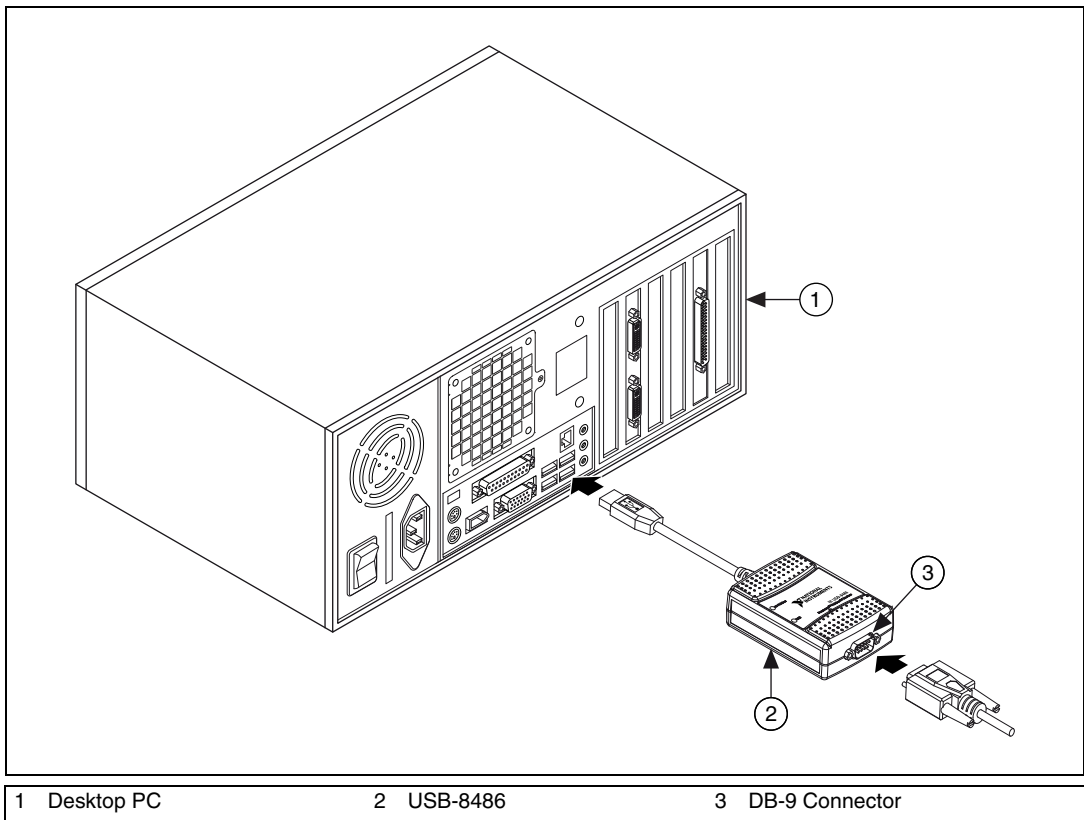
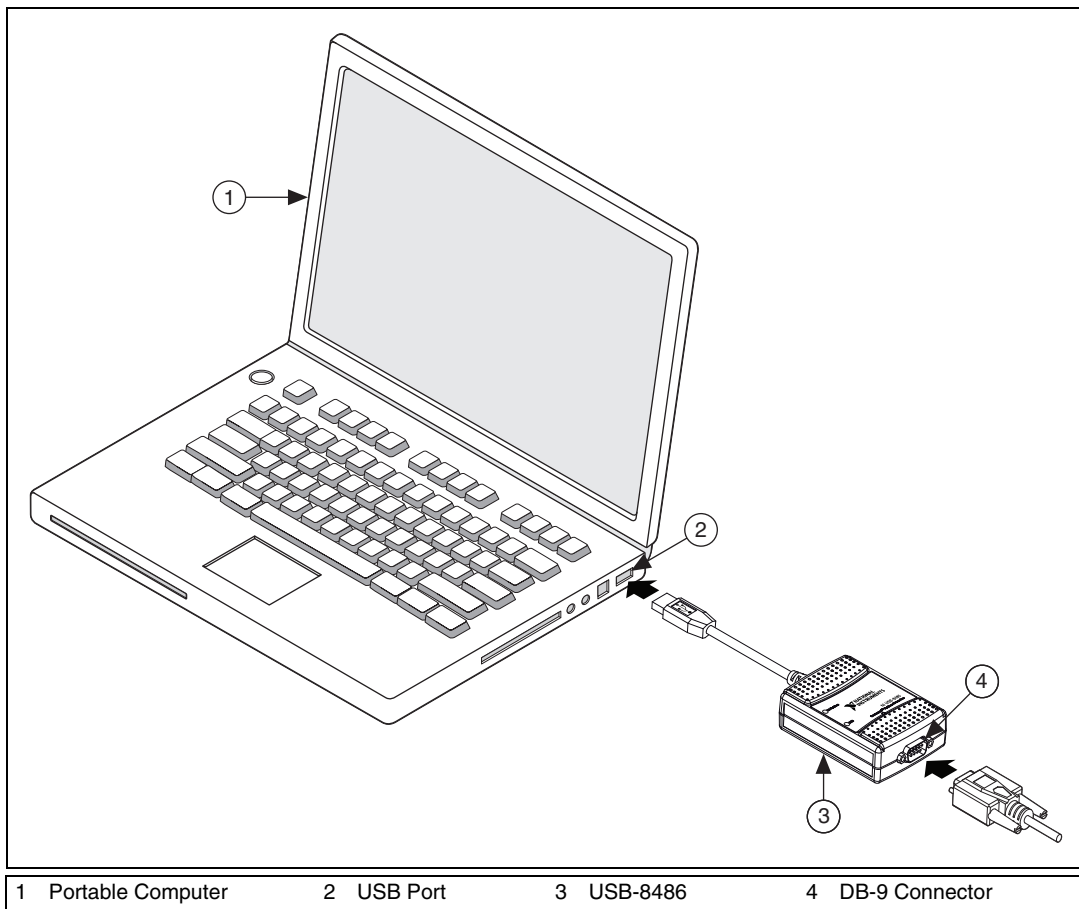

Figure 2-3. Connecting the USB-8486 to a Desktop PC
Figure 2-4. Connecting the USB-8486 to a Laptop PC
2. Insert the USB-8486 into a free USB port, as shown in Figure 2-3 and Figure 2-4.